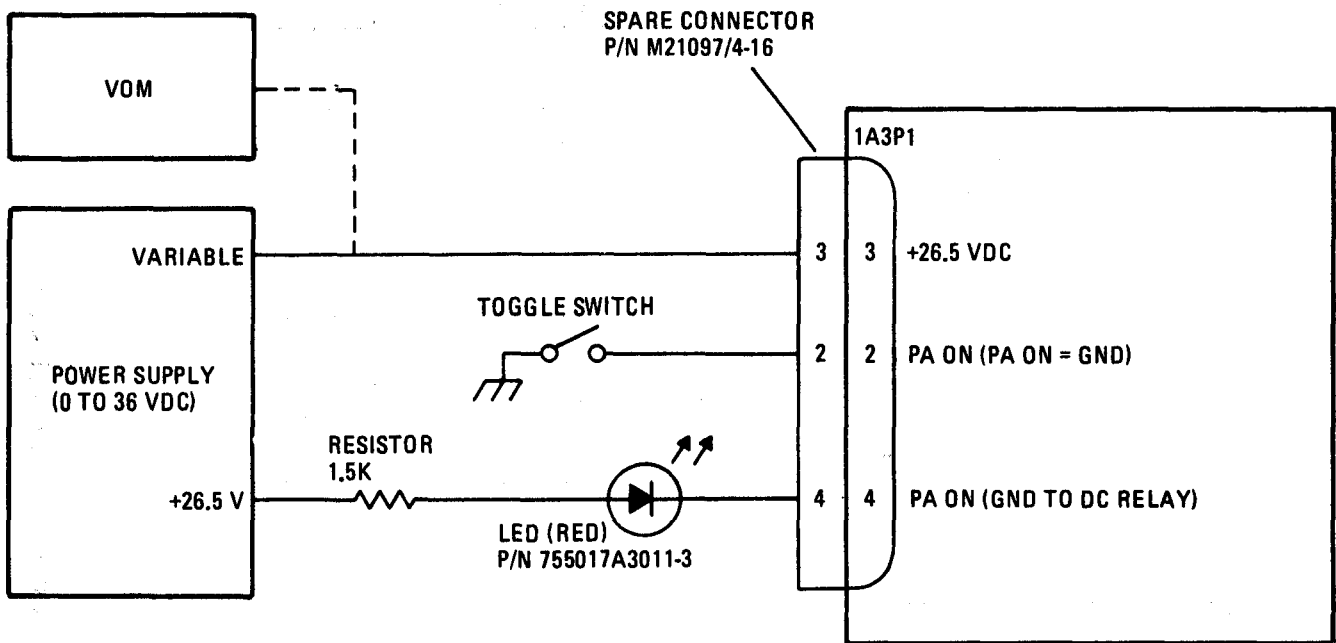

Figure 3-25. Over Voltage (+26.5 Vdc) Adjustment Setup - System Control PWB Assy 1A3
1. Establish the adjustment setup shown in figure 3-25.